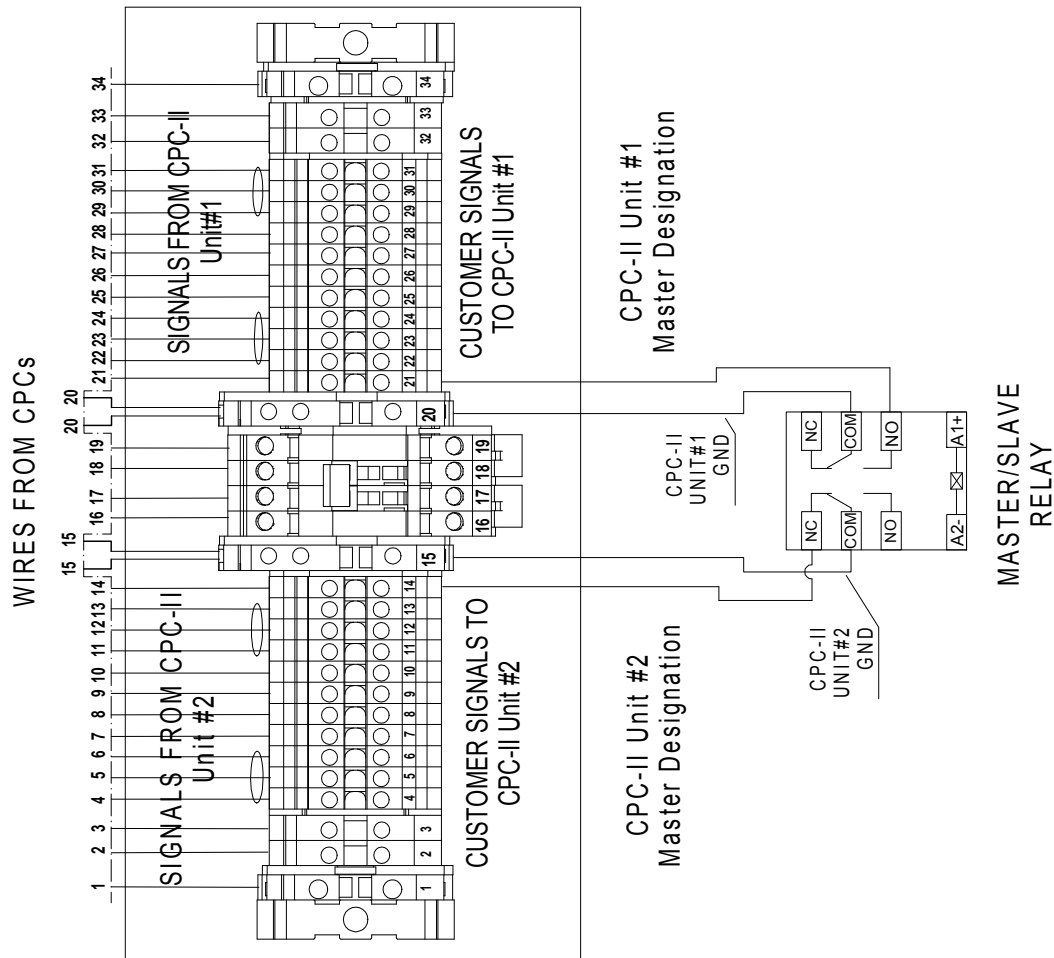

Figure 3-3. Wiring Connections for Master Designation
- Switch the Master/Slave relay to switch Master Designation to the #1 unit (see Chapter 3 and Figure 3-3 for electrical connections).